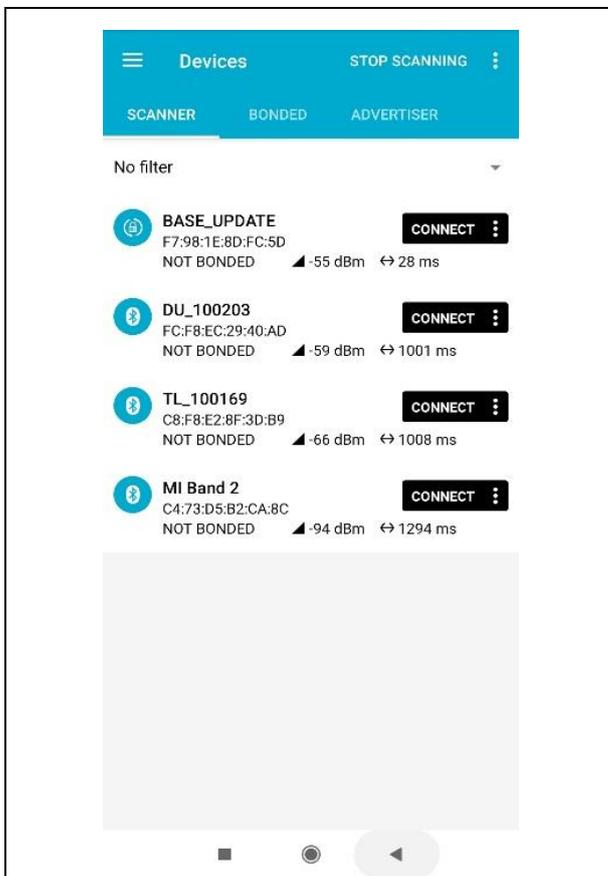
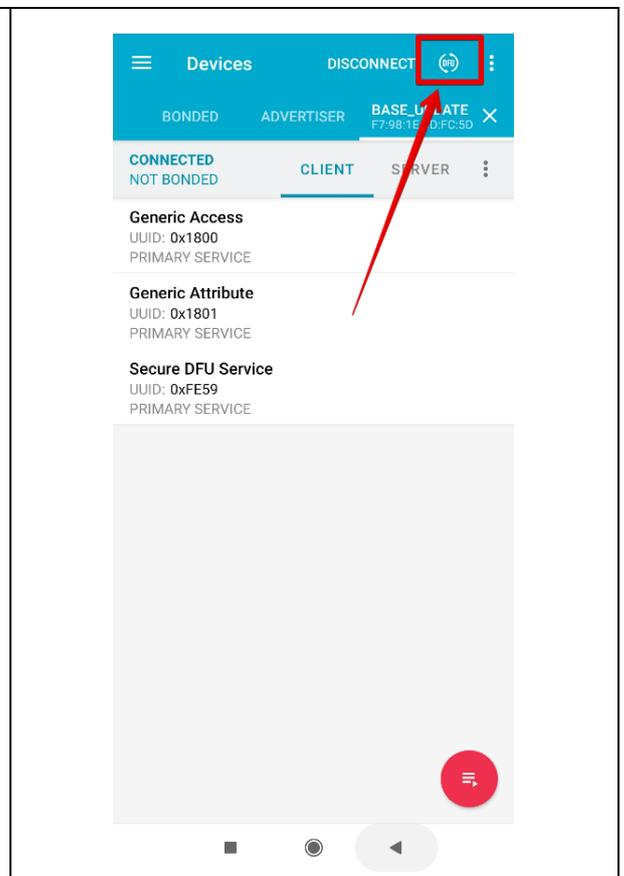

Fig. 11.5. Find the **BASE_UPDATE** device and **Connect** it
Fig. 11.6. Tap on the **DFU** button
6. During those 30 seconds, you need to open the NRF Connect app, tap on the Scan button and find the **BASE_UPDATE** device on the list (Fig. 11.5.) Press **Connect** and in the next menu tap on the **DFU button** in the upper right corner (Fig. 11.6.)
7. After pressing the **DFU** button (Fig. 11.6.), you will see the dialog window where the Distribution packet (ZIP) must be selected (Fig. 11.7.)